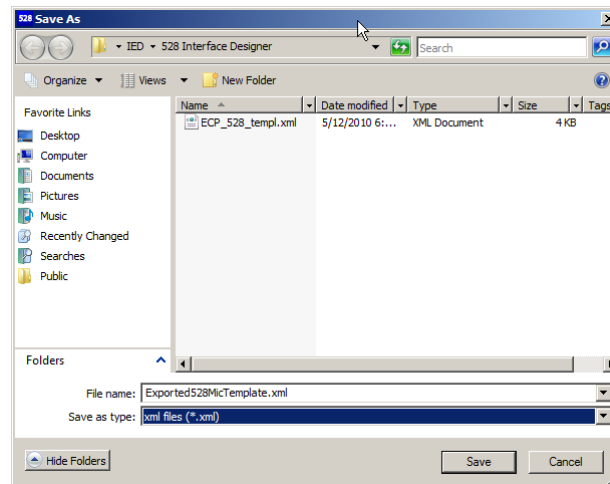

Figure 6-7: Template Save As Dialog
3. This will open a standard Windows Save As dialog window as shown in Figure 6-7.